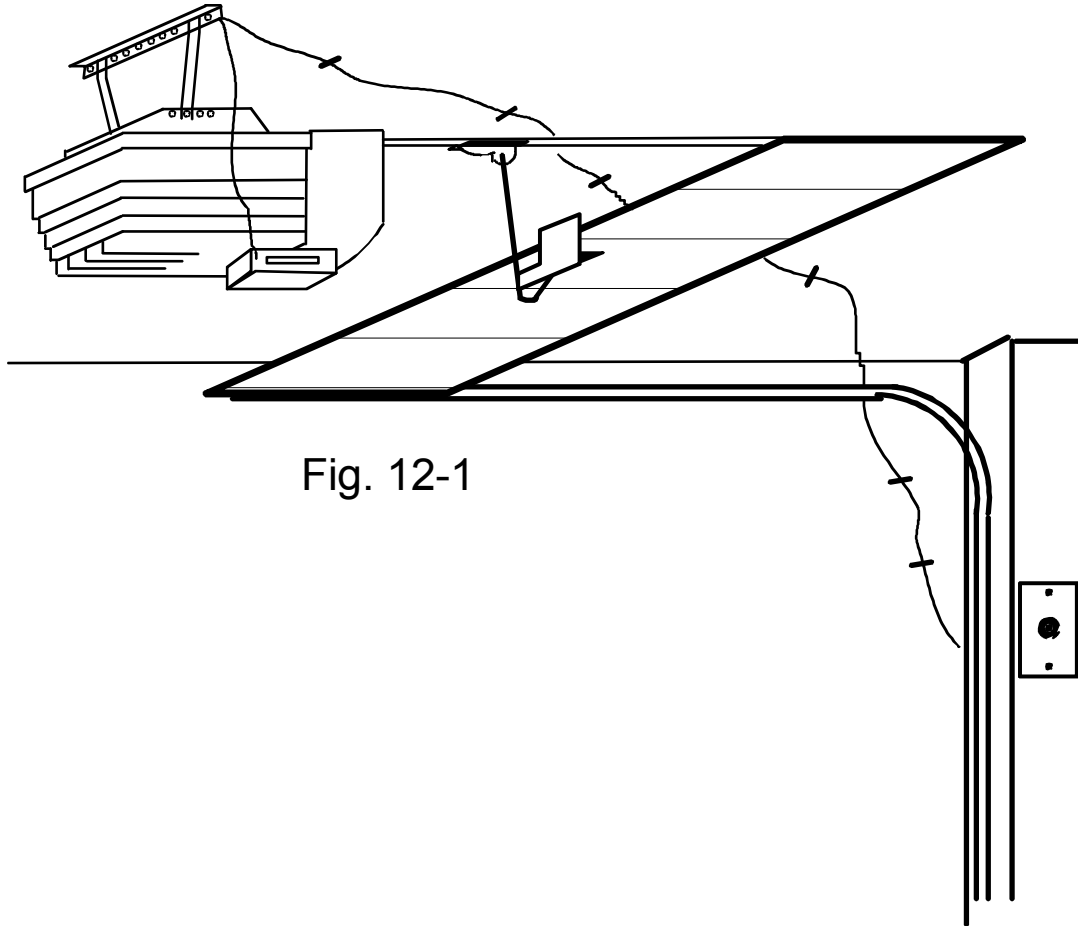

Fig. 12-1
**12. Wire the I-Opener terminal to the Autocloser.** Run the wire from the I-Opener terminal to the Autocloser unit attaching the wire to the wall and ceiling using insulated staples (not included) (**Fig. 12-1**).